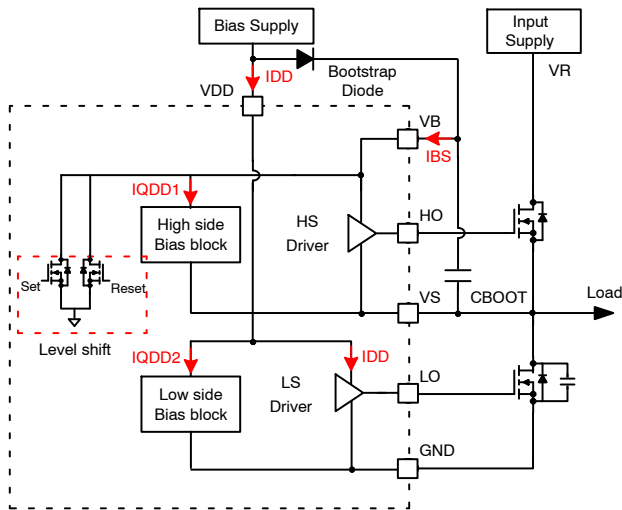

Figure 3. Simplified Circuit Diagram of Driver and Half-bridge Configuration for Dynamic and Power Losses
Let’s consider now the predominant loss sources. Figure 3 shows the circuit diagram of driver IC to address dynamic losses. The first dynamic loss is defined as the losses in the level shift (LS) in high side drive, P_{LS} .